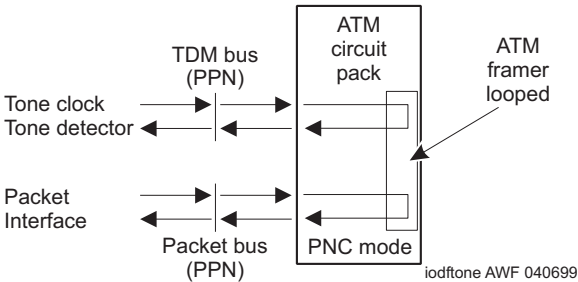

Figure 3-5. ATM Board Framer Looparound Test (#1260)
- **The circuit (TDM) path:** one of the tone generators sends a bit pattern is through a TDM bus time slot to the ATM framer. The pattern is converted into ATM cells and looped back to the ATM-EI board, which converts the cell back into the bit pattern and puts it on a pre-determined time slot. A tone detector tests for the bit pattern and reports the test result. This test verifies that a large portion of the ATM-EIs circuit paths are functioning correctly. Figure 3-5 shows a diagram of the test.